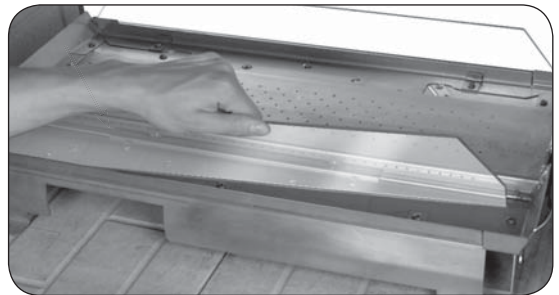
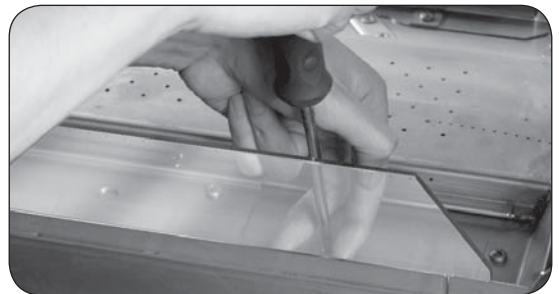

Fig. 7-2 Glass panel positioning
Fig. 7-3 Securing glass panel
9. Each side of the burner has tabs designed to hold the glass panels in place. First loosen the screws on the tabs with a screwdriver. Then position a glass panel in place, secure the tabs up against the panel, and fasten the screws. Repeat for the opposite side. Reference Fig. 7-2 and Fig. 7-3.